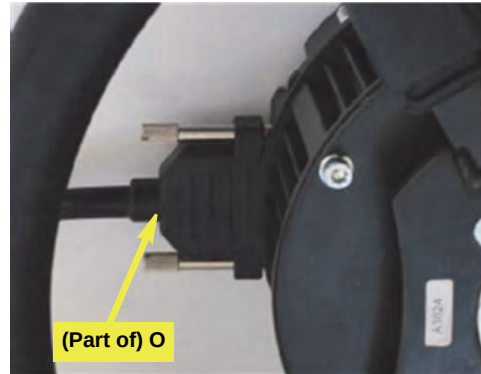

Figure 8b: Junction box comms cable connected to steering wheel assembly
- c. Clip the junction box **O** into place on its bracket **P** (neither shown) then connect **O**'s 15-pin connector cable to the communications port on the steering wheel assembly (Figure 8b). Use clip **R** suitably (not shown).